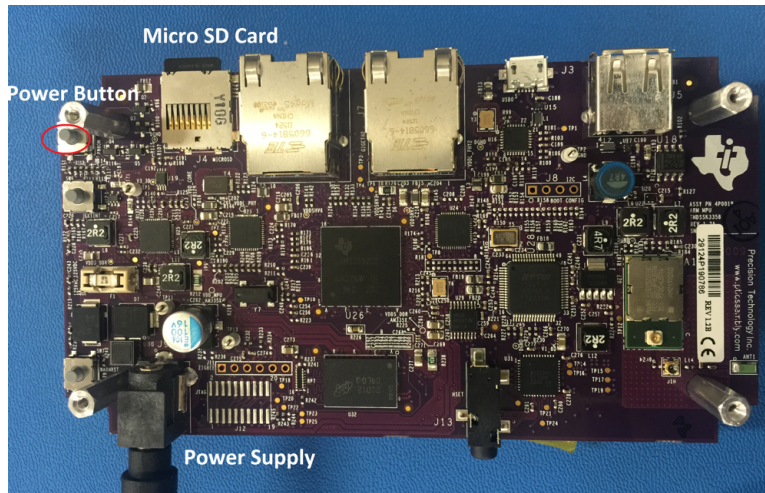

图 4. AM335x Starter Kit Setup (LCD Face Down)
1. Insert the micro SD card created in 节 3.1.2 in the location shown in 图 4.
2. Insert the 5-V power supply and press the power button shown in 图 4.